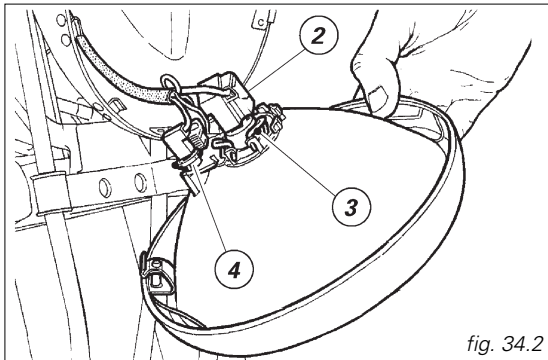

fig. 34.2
To gain access to headlamp bulbs, slacken the lower screw (1) holding the rim-reflector assembly to the body and disconnect the connector (2, fig. 34.2) from the headlamp. Release the clip (3, fig. 34.2) that secures the bulb and remove it from the socket.
E To change the parking light bulb, withdraw the bulb holder (4, fig. 34.2). The bulb is of the bayonet-type: press and rotate anti-clockwise to remove. Fit the spare bulb by pressing and turning clockwise until it clicks. Fit the bulb holder again and assemble the rim-reflector assembly.